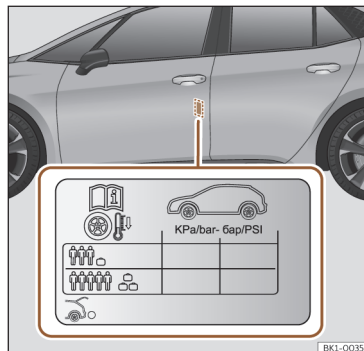

Fig. 161 Location of the tyre pressure sticker.
- Adjust tyre pressure to the load being carried by the vehicle»» **Fig. 161**.
The tyre inflation pressures are listed on a sticker on the rear of the front left door frame»» **Fig. 161**.
The tyre pressure must be adjusted according to the load the vehicle is carrying. If the vehicle is going to carry the maximum load, the tyre pressure should be increased to the maximum value indicated on the sticker »» **Fig. 161**.
In the case of a minimised temporary spare wheel (125/70 R16 or 125/70 R18), inflate to a pressure of 4.2 bar as indicated on the tyre pressure label»» **Fig. 161**.
- The driver is responsible for ensuring that all of the vehicle tyres are correctly inflated to the right pressure. The recommended tyre pressure is indicated on the label »» **Fig. 161**.
- When the tyres are cold, tyre pressure should be that indicated on the label »» **Fig. 161**.